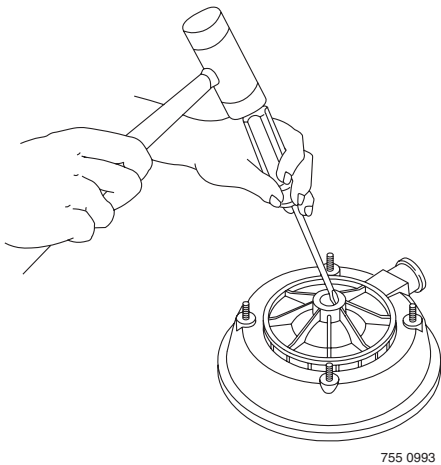

Figure 23 – Tap Out Seal
- Place pump body half face down on flat surface and tap out stationary half of seal (see Figure 23).